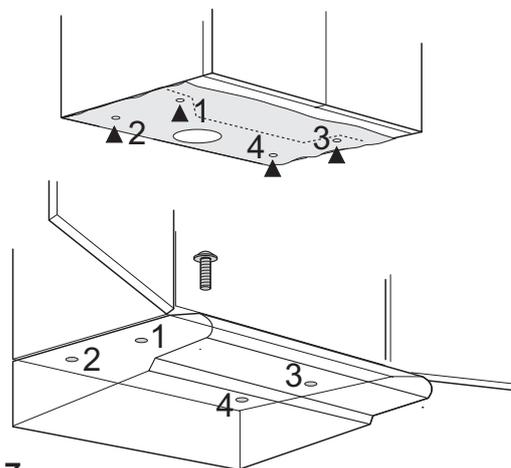

Fig. 7
- Make the holes on the bottom of the cupboard, using the drilling template (Fig. 7).